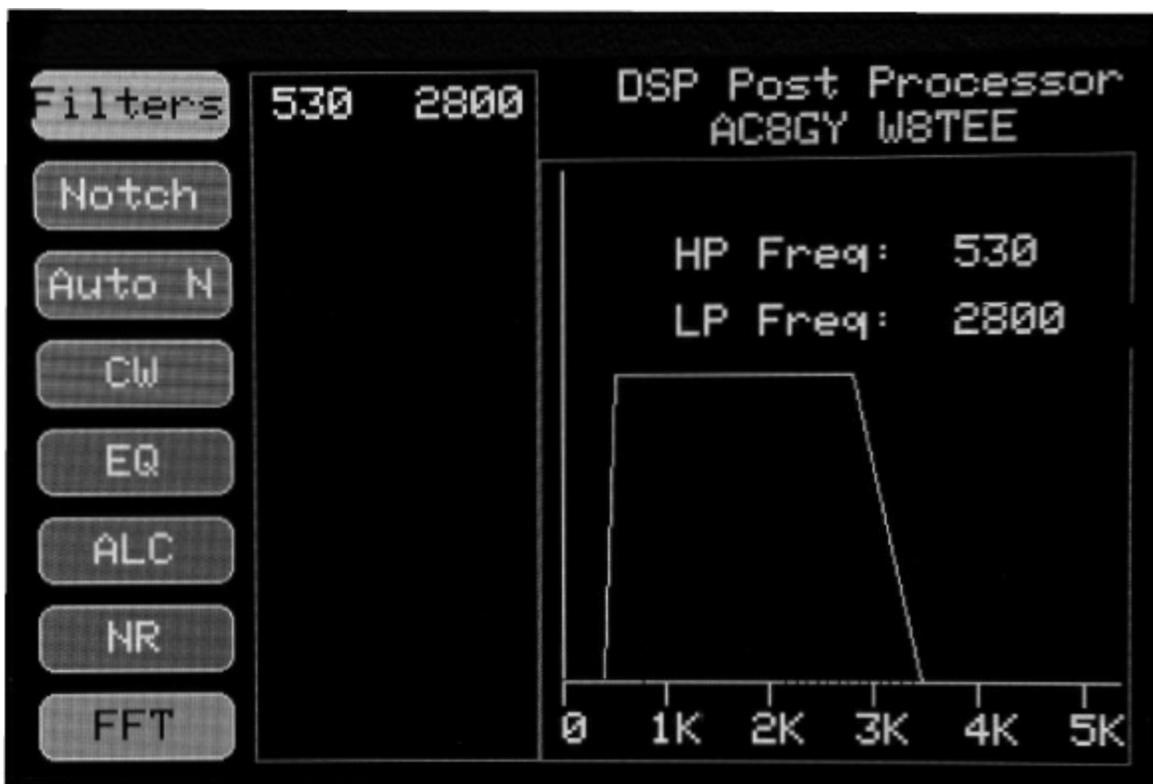

Figure 11.11 — Cutoff filter setting.
1) After hooking up the DPP to your rig and some speakers, you must set the parameters for the functions you want to use. To enter the “Set” mode for any function, touch the on-screen function button (such as Filters or Notch — see Figure 11.2) to bring up the setup routine for that function. The current status is displayed next to the screen function button on the left side (see **Figure 11.11** for an example). Using the two encoders, set the parameters for that function. A detailed description of each function’s setup is given below.
Each function is set up in a slightly different way, but the general process is similar for all options. In each case, the desired function is selected by enabling its “Set” mode button as seen on the left side of Figure 11.11.
Both the HP and LP filters are characterized by their  $-3$  dB cutoff frequencies. The encoders allow real-time adjustment of the cutoff frequencies while listening to the result. The HP filter is set with the primary (left) encoder and the LP cutoff is set by the second encoder. Figure 11.11 shows the filter setting screen (note the 530 and 2800 numbers in the setup area of the display, representing 530 Hz cutoff for the HP filter cutoff and 2800 Hz for the LP filter). Simply rotate the encoders while listening to the signal through the speaker or headphones until the desired result is achieved. The  $-3$  dB cutoff frequency is shown both on the graphical display and in the status display.